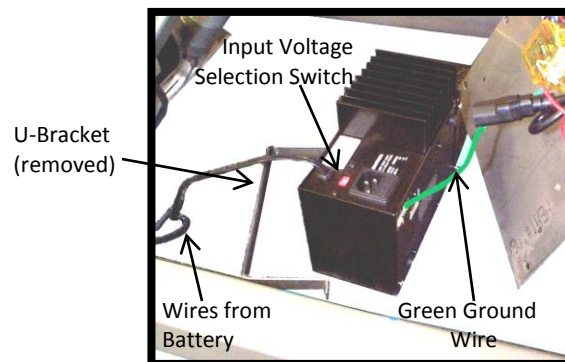

Figure 20: Battery Charger Removed from Cover
10. With a Phillips screwdriver, disconnect the green ground wire (Figure 20) from the back of the battery charger.
1. Check the input voltage selection switch (Figure 20) on the new battery charger. The window should show the appropriate voltage selection depending on your location. If it shows the incorrect voltage use a flat-blade screwdriver or similar object to switch the reading as needed. In U.S.A., Canada and Mexico 115V is standard, in locations where 230 volt power is used, the window should show "230".